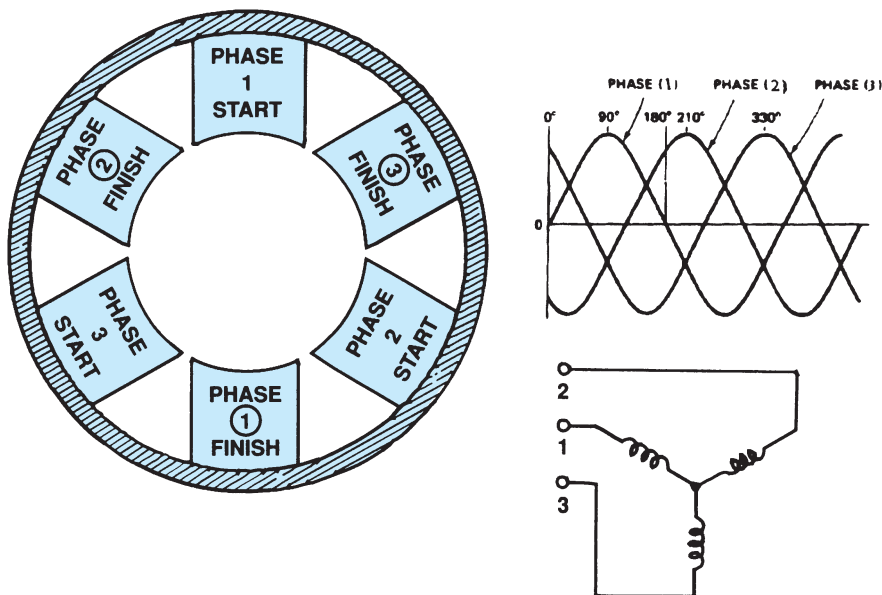

FIGURE 14-21 Three-phase motor.
When a three-phase voltage is applied to the stator of a three-phase motor, a rotating magnetic field is automatically present around the stator (Figure 14-21). A set of magnetic pole pairs is indicated by the numbers 1 ①, 2 ②, and 3 ③. With the application of the three phases of voltage to the windings of the poles, a rotating field results around the face of the motor stator.